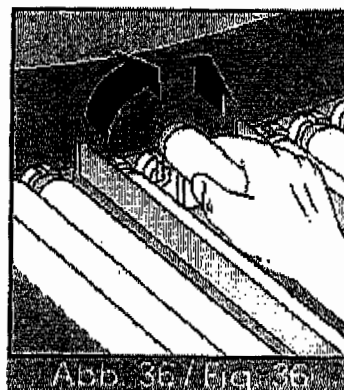

Abb. 36 / Fig. 36
- Turn the lamps 90° in any direction and pull them out of the sockets. (see Fig. 36)